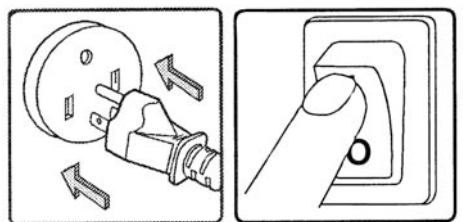

FIGURE 12
- 8) Start the vacuum by pushing the On/Off waterproof switch to the On position as shown in Fig.12. The On position is indicated by the international symbol "I" on the switch.